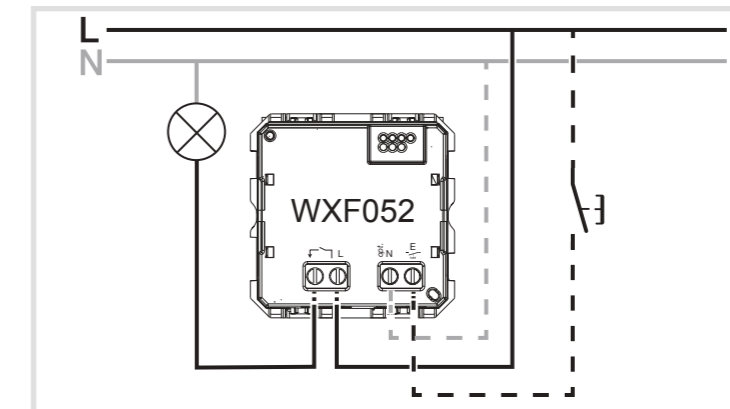

Fig. 6: Connection of 2-wire motion detector
- Screw supporting ring (1) to a wall box in the correct position.
- Connect motion detector (2) according to the connecting diagram (figure 6/7)
- Snap motion detector (2) into the supporting ring.
- Snap cover (3).
- Fit frame (4).